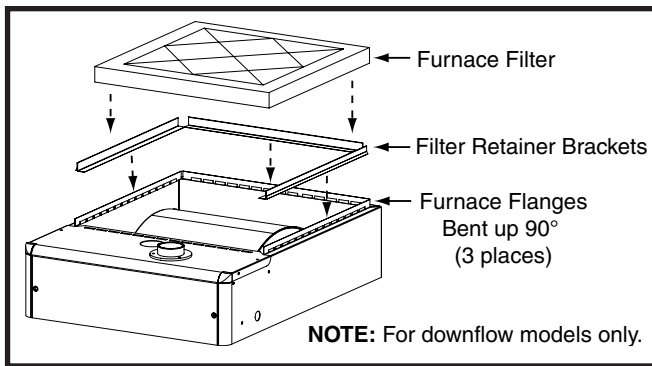

Figure 32. Filter Retainer Brackets
1. Bend the rear, right and left side furnace flanges upward 90° with a pair of wide duct pliers. See Figure 32 \(page 22\).